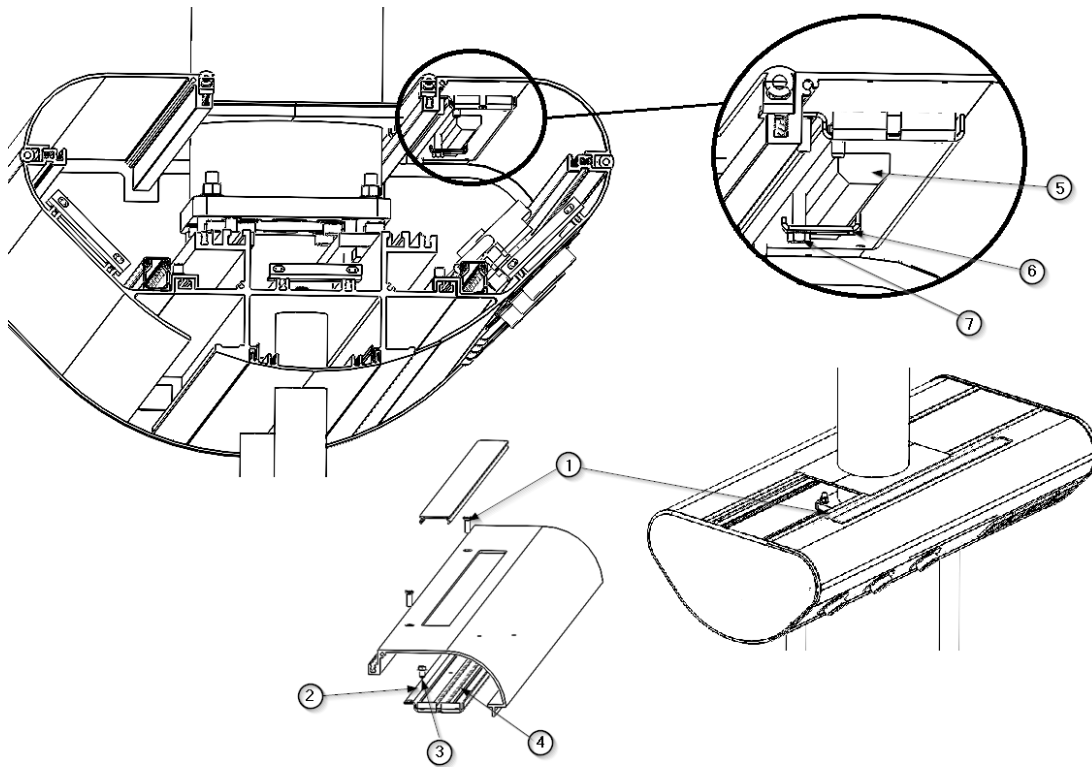

Fig.6 Replacement of LEDs and drivers in asymmetric indirect lighting
- Disconnect the power supply of the controller (2) from the terminal strip.
- Unscrew the 2 M4 x 8 hexagon screws (1) DIN 7500 and release the lighting module. The LED strip (5) and its quick connector are visible. See figure 6.